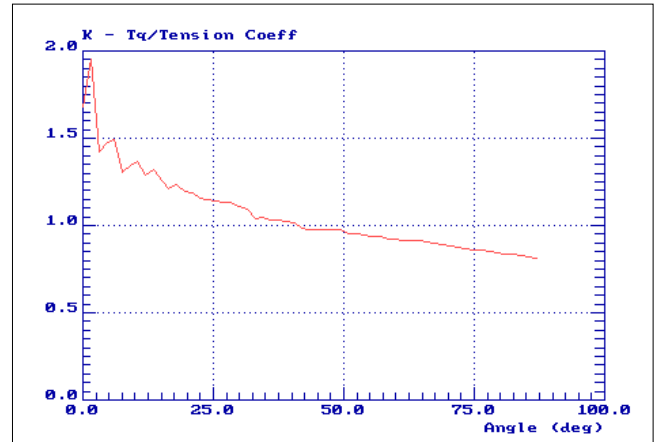

Figure 3-3. Tq/Tension Coeff. vs. Angle
4. Press the number associated with the plot you want to display. Refer to Figures 3-3, 3-4, or 3-5 for examples of the plots. After the plot is displayed you can press  $1$  to print the plot or  $2$  to send it to the attached plotter, or press  $X$  to return to the Advanced Analysis menu.